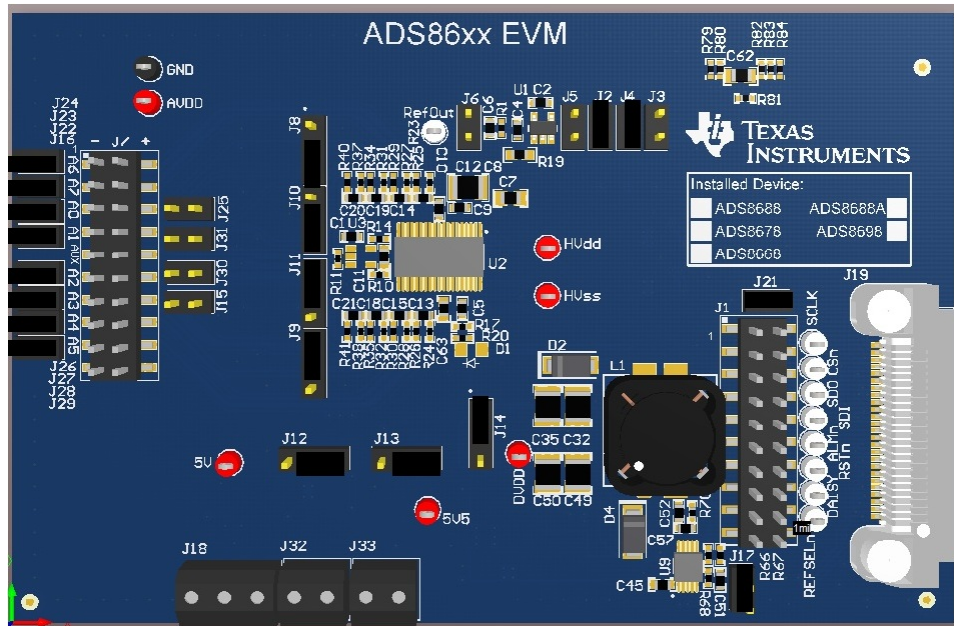

Figure 4. ADS86xxEVM Default Jumper Settings
Figure 4 details the default jumper settings. Table 13 provides the configuration for these jumpers.
2. Ensure that the ADS86xxEVM jumpers are configured as illustrated in Figure 4.